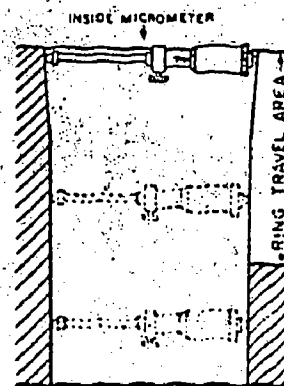

Fig. 17-14. Wear is greatest in ring travel area, causing customary taper at top of cylinder.
11. Worn pistons and cylinder walls. See Figs. 17-14 and 17-15.